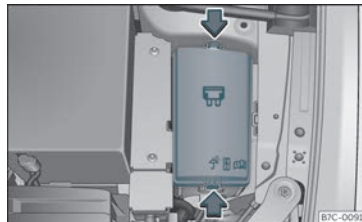

Fig. 47 In the engine compartment: fuse box cover.
- Press the locking tabs to release the fuse box cover >>> **Fig. 47**.